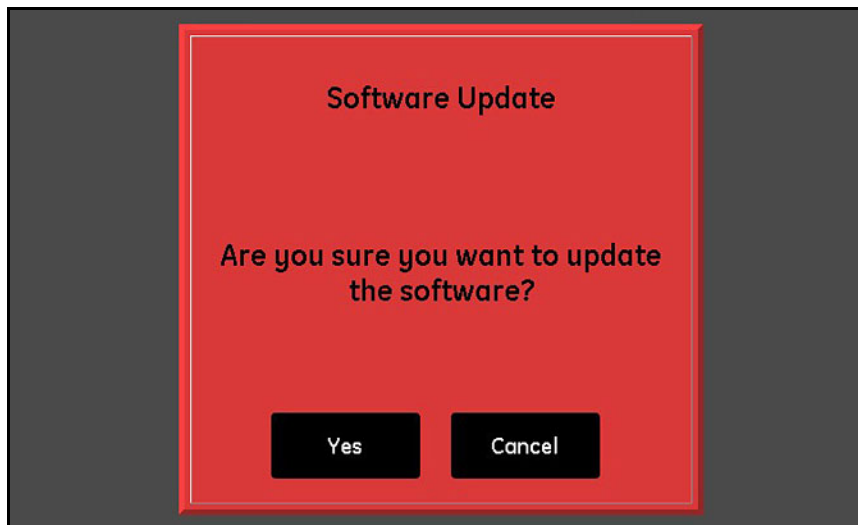

Figure 42: Software Update Confirmation Screen
2. Tap **Yes** at a screen similar to *Figure 42* below to confirm your choice, or tap **Cancel** to abort the update.